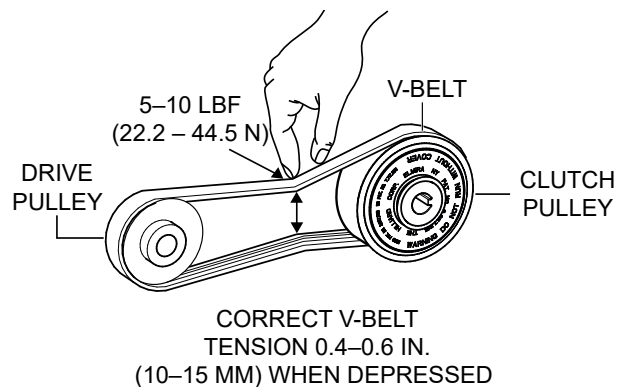

Figure 7. V-Belt Tension
4. A properly tensioned V-belt (Figure 7) should deflect approximately 0.4–0.6 inches (5–10 mm) when 5 to 10 pounds of force are applied centrally between the pulleys.